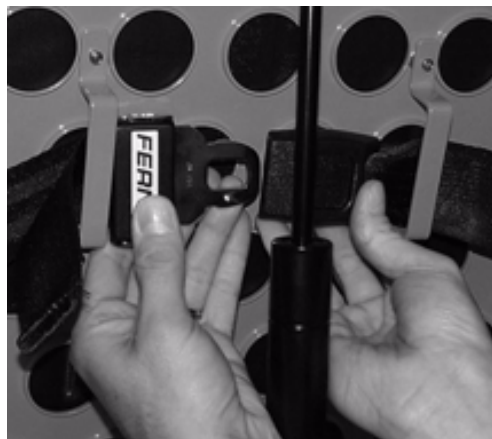

Figure 15 – Fastening the Pedi-Mate™ Buckle
4. Wrap the straps around the backrest and insert the ends of the straps through the brackets. Securely fasten the buckle (Figure 15).